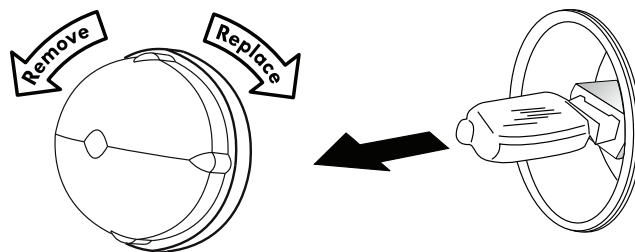

Figure 43: Replacing the oven Halogen light
2. Remove interior oven light shield by turning a quarter turn counter-clockwise (Figure 43).